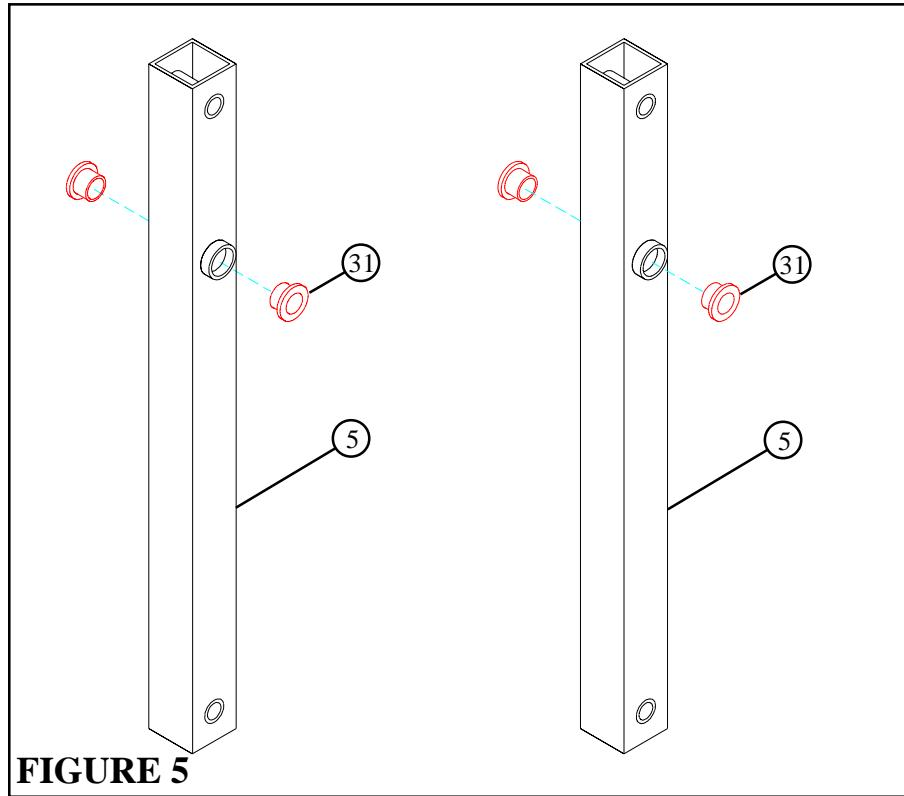

**FIGURE 4**
- CAREFULLY slide the ADJUSTMENT TUBE (7) over into the SEAT FRAME (2) and engage the SPRING PIN into one of the adjustment holes. See FIGURE 4.